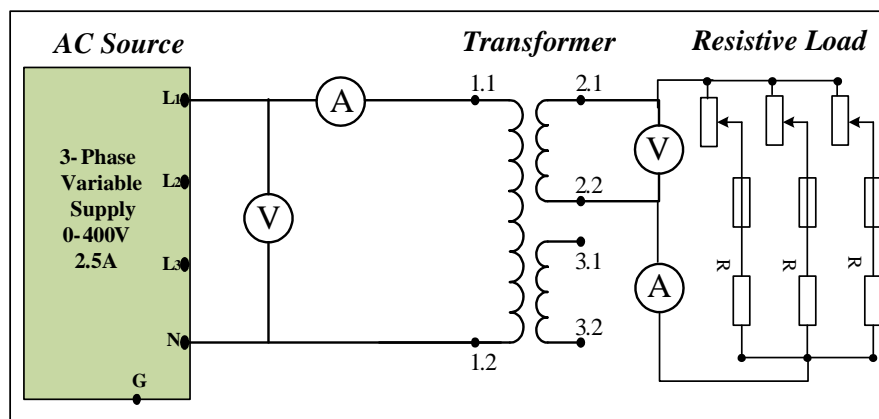

Figure 2 Resistive load voltage, current and power measurements
3. While the resistive load bank is separated from Fig. 2 circuit, **fix its control knob at 40%** then measure the per phase load resistance using the Multimeter.
4. Calculate the voltages, currents and powers for the connected Fig. 2 circuit then enter the data in Table 2.